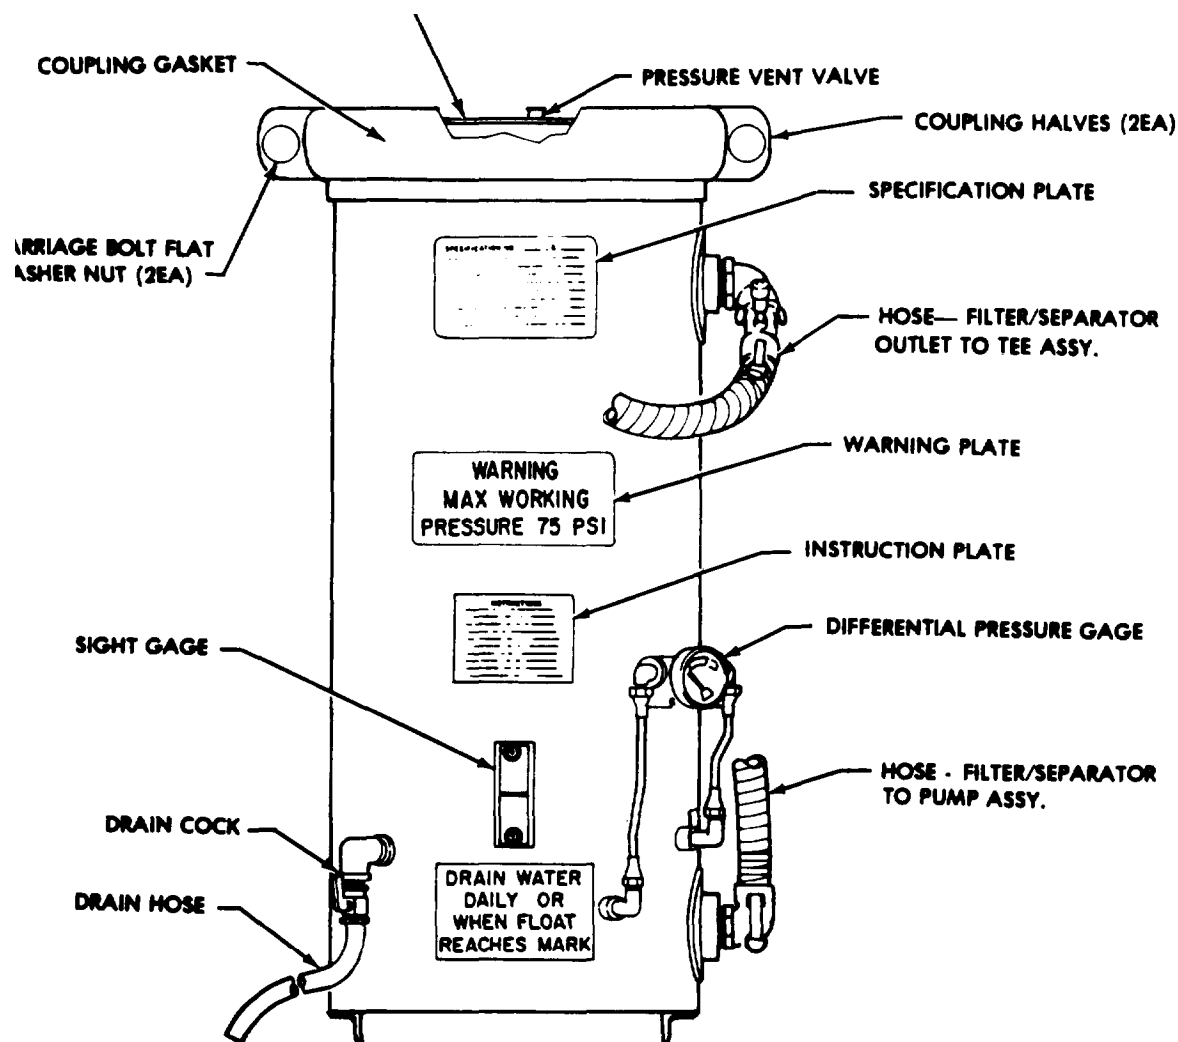

Figure 4-8. Filter Separator (Front).
- (1) Open the drain cock and drain the solution into a suitable container.
- (2) Open pressure vent valve by depressing it and locking it.
- (3) Disconnect the hoses.
- (4) Remove six screws, flat washers, lockwashers, and nuts to detach filter/separator from the A-frame assembly.
- (5) Remove filter/separator from the A-frame assembly.
- (6) To disassemble the filter/separator, remove two carriage bolts, washers and nuts to remove the two coupling clamp halves and the coupling gasket (figures 4-8 and 4-9).
(1) Assemble filter elements into canisters and install in filter/separator (figures 4-8 and 4-9).
- (1) Open the filter/separator drain cock and drain the solution into a suitable container. (Figure 4-8.)
- (2) Open pressure vent valve by depressing and locking it.
- (3) Remove two screws and washers, and remove the sight gage, gasket, and float ball.
- (4) Disconnect flare nut couplings from the differential pressure gage.
- (5) Remove two screws and washers, and remove differential pressure gage.
- (6) Remove drain cock and hose.
- (7) Remove pressure vent valve.
- (1) Install pressure vent valve (figure 4-8).
- (2) Install drain cock and hose.
- (3) Install differential pressure gage.
- (4) Connect flare nut couplings to the differential pressure gage.
- (5) Install gasket, float ball, and sight gage.
- (6) Close drain cock.
- (7) Close pressure vent valve.